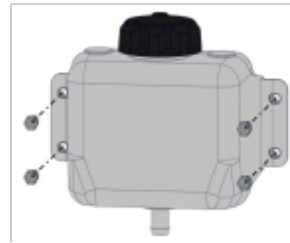

Figure 1
1. Mount the oil reservoir to side of machine closest to the double acting hydraulic cylinder. Using the tank as a template, mark and drill four 7/32" holes. Secure the tank with self tapping screws. See figure 1